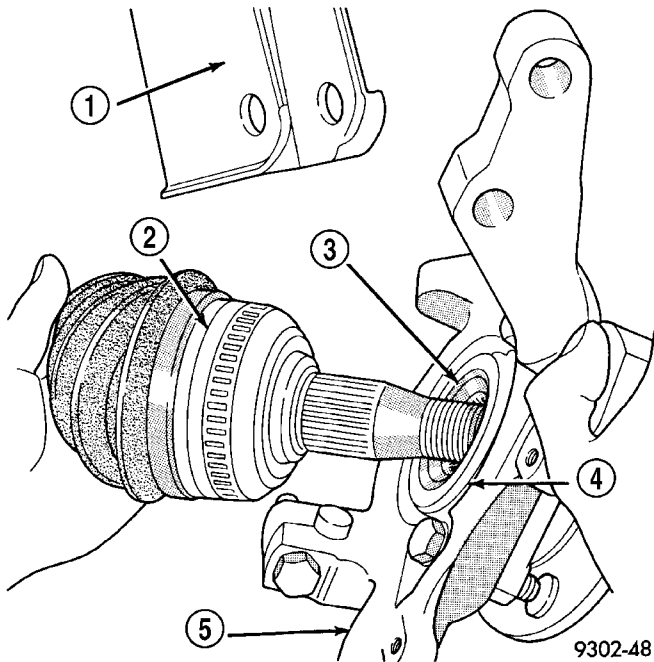

Fig. 14 Outer C/V Joint Installation Into Hub and Bearing
(5) Hold outer C/V joint assembly with one hand. Grasp steering knuckle with other hand and rotate it out and to the rear of the vehicle. Install outer C/V joint into the hub and bearing assembly (Fig. 14).